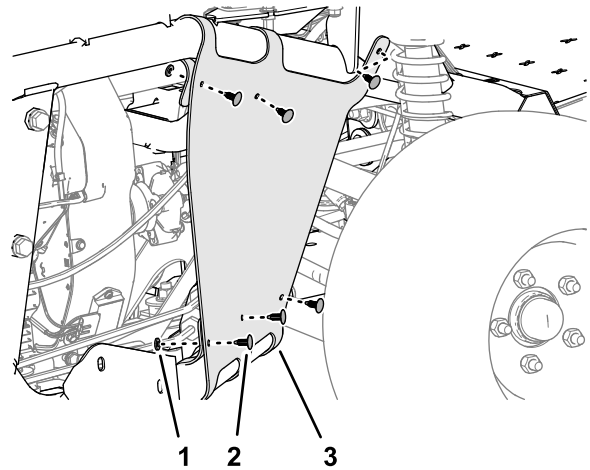

Figure 18
6. Remove the 6 push-in fasteners and 5 washers (9/16 x 1/2 inch) that secure the inner-fender shroud to the right, upper and right, lower-frame tubes (Figure 18).
7. Remove the inner-fender shroud from the machine (Figure 18).